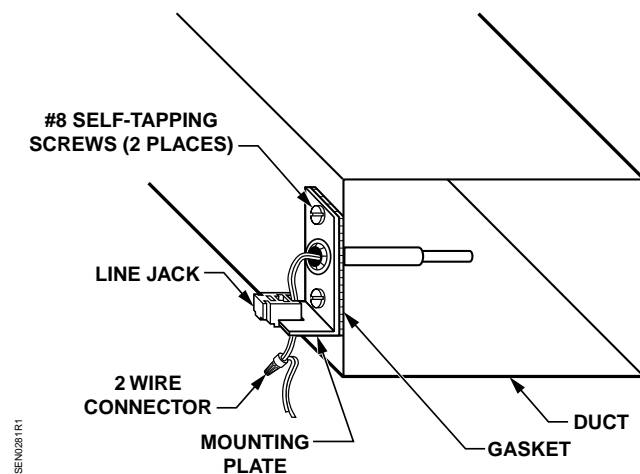

Figure 1. Installation on a Square Duct.
The single point 10K ohm Duct Temperature Sensor is inserted into the duct to provide an input to the controller. The assembly may be installed on the outside of a square or round duct (Figures 1 and 2). The mounting plate is made of thin steel, which can be easily bent to conform to round or irregular contour ducts.
4. Press the line jack into the cutout on the mounting plate. See Figures 1 and 2.